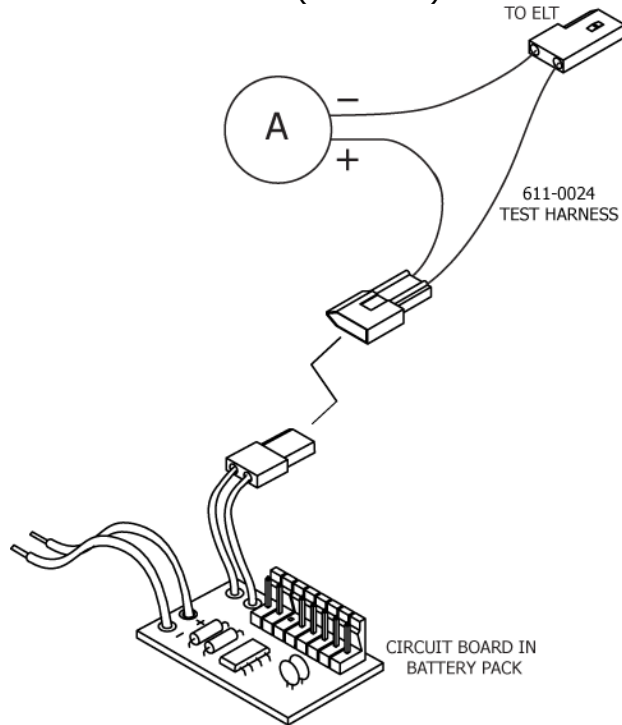

Figure 9 Current Draw Test Setup
- 4) Install test harness 611-0024, or equivalent, in the power circuit. See Figure 9 Current Draw Test Setup on page 34.